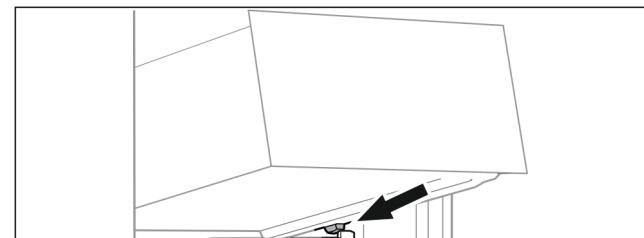

Fig. 75
- Place drawer at an angle behind the stoppers on the moulded rib. (see Fig. 75)